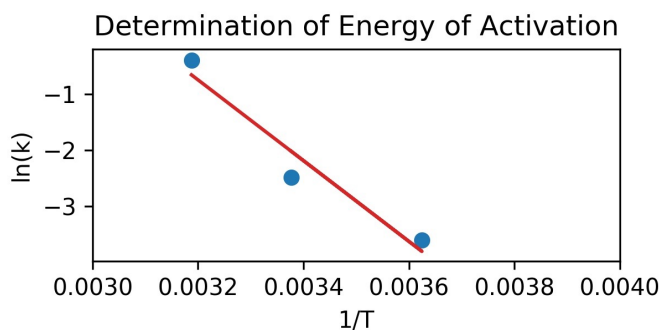

Figure 2: Plot of k versus $1/T$ from those value given from Figure 1.
- (b) Using the data provided in Figure 1, you make the plot in Figure 2. Explain how you can determine E_a from this plot.
- (c) From the Figure 2, the best fit line can be approximated by just the 2 end-points. Given the following data, determine the activation energy. Compare this to E_a given by the red line, 14.30 ± 3.66 kcal/mole, as well as the literature accepted value 11.56 kcal/mol.